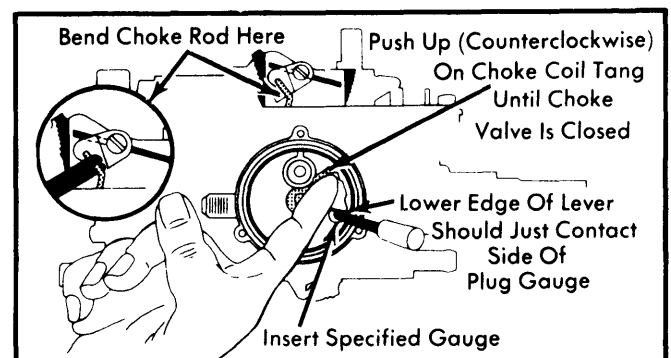

Fig. 3 Adjusting Choke Coil Lever
- 1) Remove 3 retaining rivets. Then remove choke cover and coil from choke housing. See Fig. 3.